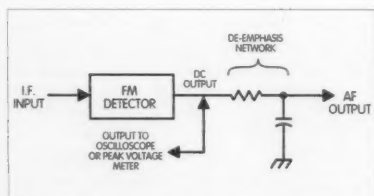

Fig. 1. Connecting a deviation indicator to a receiver's FM detector.
Remember that the full coil length will tune 80 m, so run a wire from the standoff to the fifth position on the switch (see **Photo G**). Two air variable sections were paralleled and permanently wired into the circuit (see **Fig. 1**). I used a small rotary shorting switch to move additional capacitance into the circuit as needed. If you prefer, replace the rotary switch with
**Fig. 1.** Tuned input module enclosure. C1: 5-section air variable. L1: 6 turns of #10 wire 1-1/2 inches long (wound on 1-1/2-inch OD form), tapped from ground end at 1-1/4, 1-7/8, 2-1/2, 4-1/8, and 6 turns. S1: SP3T (shorting). S2: SP5T (nonshorting).
3) Connecting an oscilloscope to the DC output of the detector of an FM receiver, as shown in Fig. 1, is by far the easiest method to implement for measurement of deviation. The oscilloscope may be either AC- or DC-coupled to the detector, but the DC-coupled scope is easier to calibrate (as will be discussed in a moment). The scope displays the instantaneous carrier deviation of the transmitter. With the trace centered on the screen, the vertical deflection from center can be calibrated in deviation. The horizontal sweep rate and width of the scope is adjusted for comfortable viewing as only the vertical component is of concern.